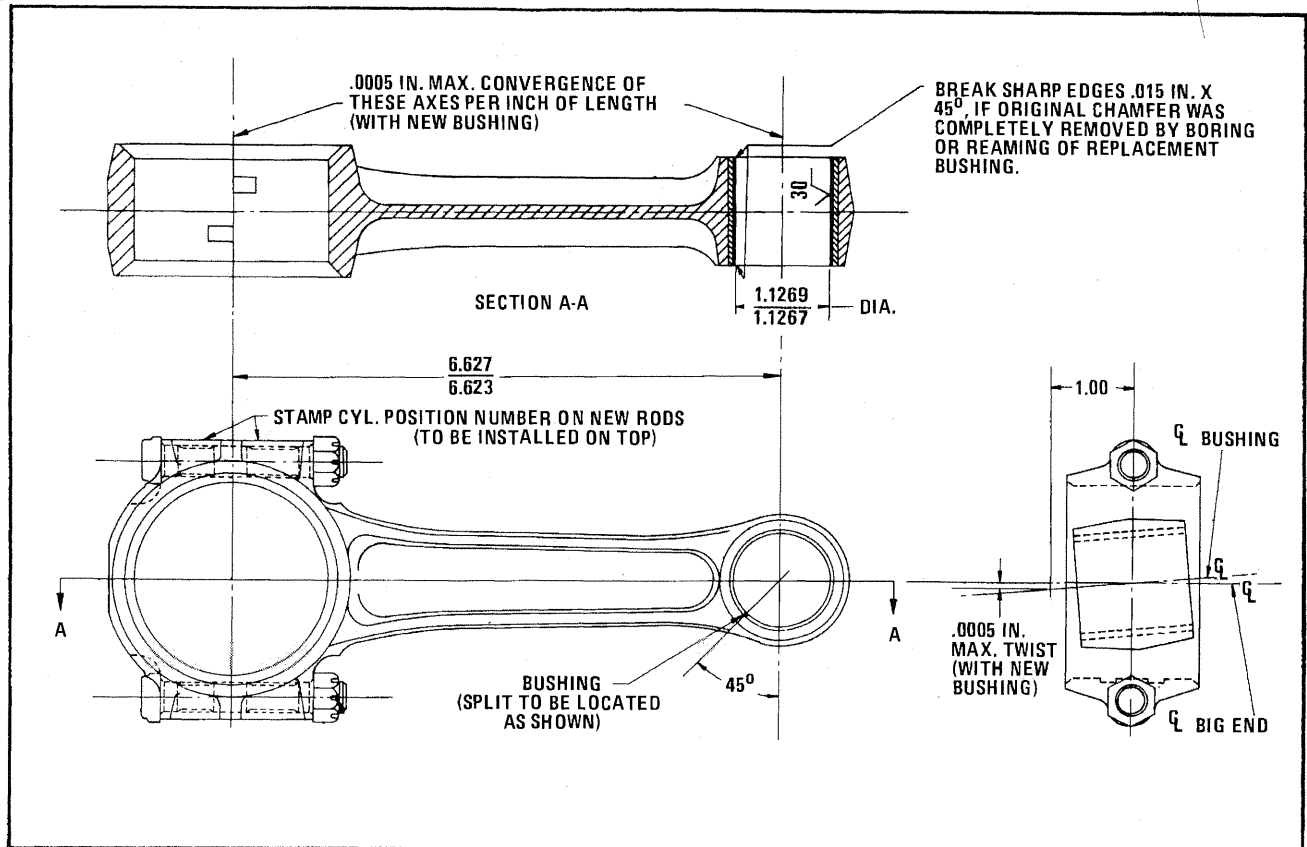

FIGURE 5-8. CONNECTING ROD AND BUSHING DIMENSIONS.
**5-29. PISTON PIN BUSHING REPLACEMENT.** The connecting rod does not need to be heated for this operation. Press out the old bushing in an arbor press, using a drift only slightly smaller than the bushing O.D. Make sure that the rod bore is smooth. Dip the new bushing in engine lubricating oil before placing it in position, and locate the split as illustrated in Figure 5-9. (The position number is stamped on the rod and cap bosses on the far side.) Ream or bore the new bushing to the specified diameter and check alignment as described in paragraph 6-20. The center-to-center distance given in Figure 5-8 will be held automatically if the bore is centered in the new bushing.